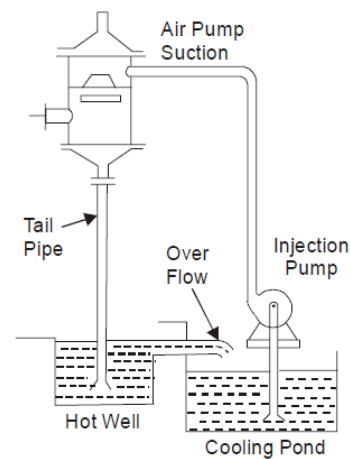

Fig. 1.14
2. High level or Barometric condenser. Fig. 1.14